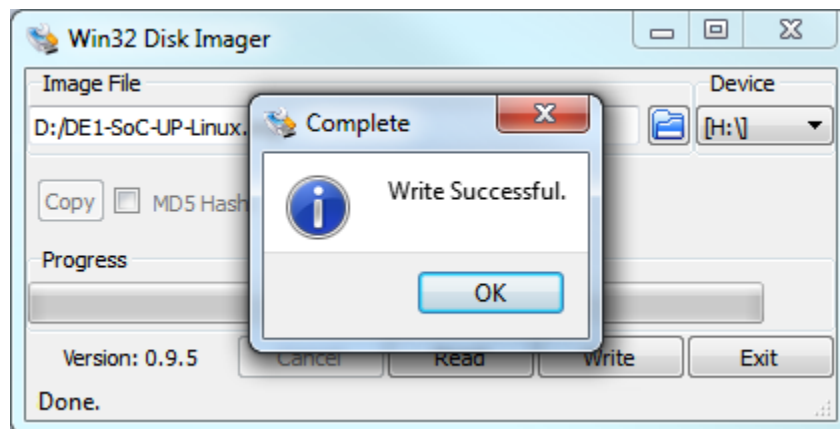

Figure 2. Writing a file to the microSD card using Win32 Disk Imager.
4. Click *Write* to write the microSD card. If prompted to confirm the overwrite, press *yes*. Once the writing is complete, you will see the success dialog shown in Figure 2.